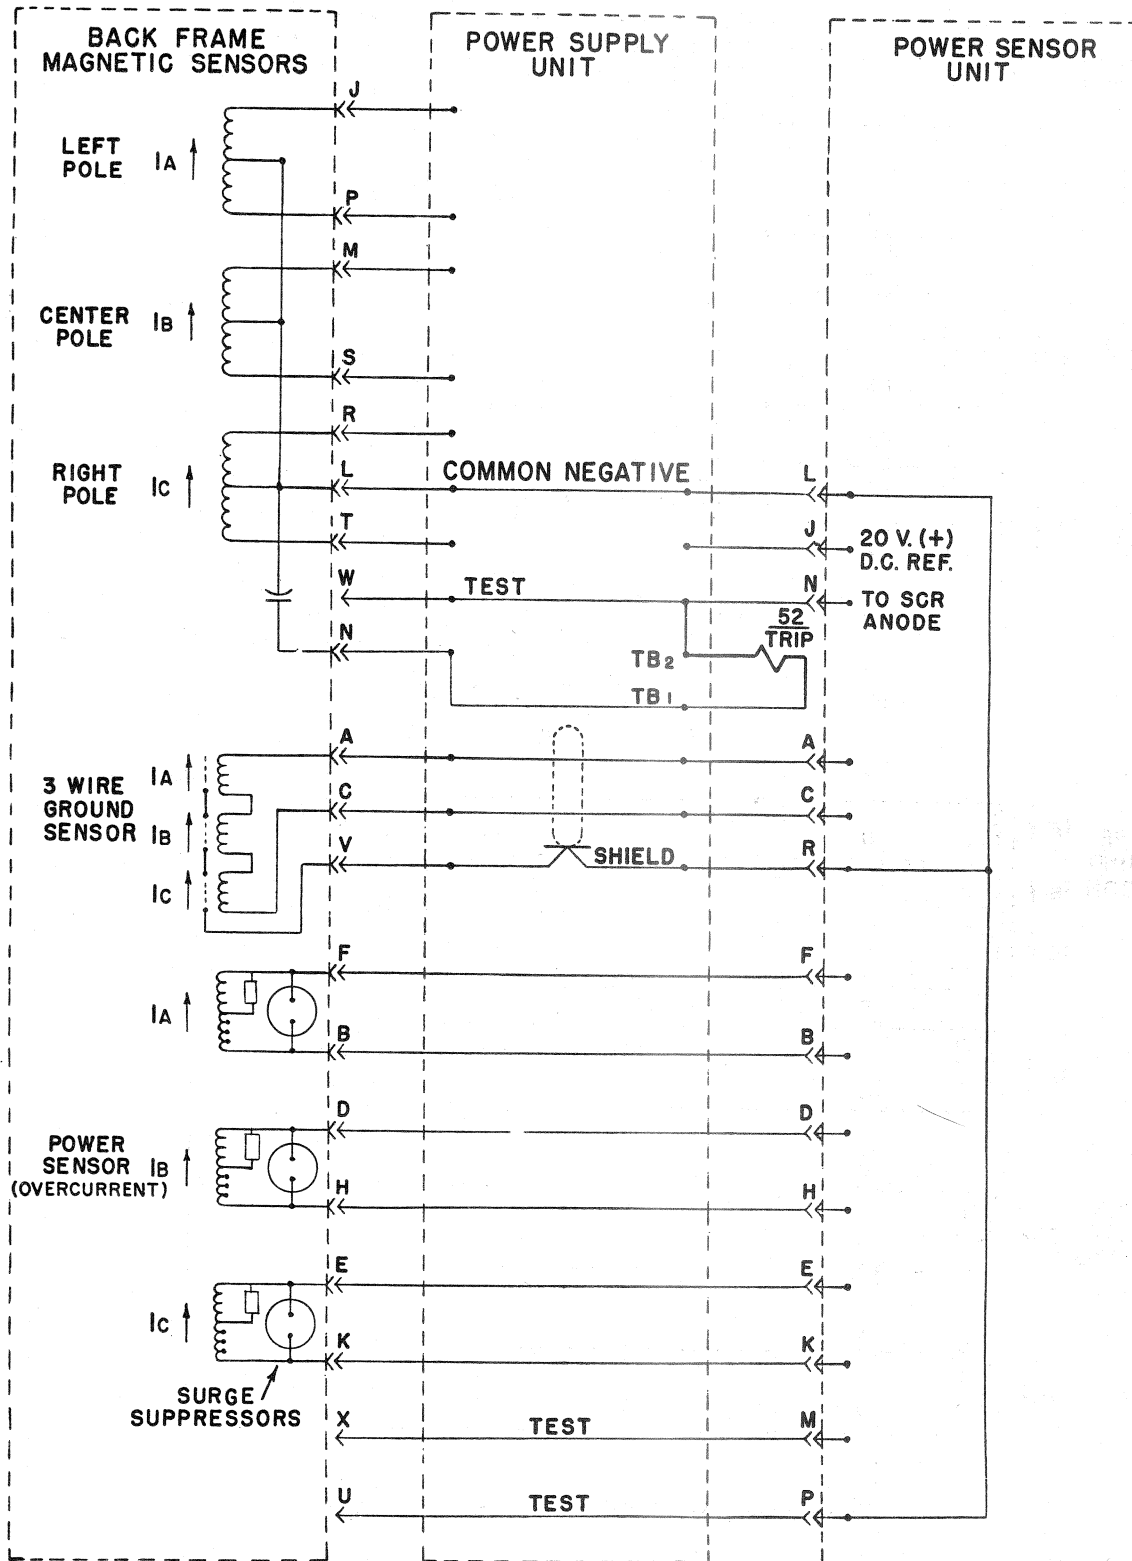

Figure 6. (133C9017-3) Power Sensor Cabling Diagram Drawing
2. Power Sensor Cabling Diagram Drawing #133C9017 (Figure 6), and #133C9018 (Figure 7) on pages 11 and 12 of this manual.